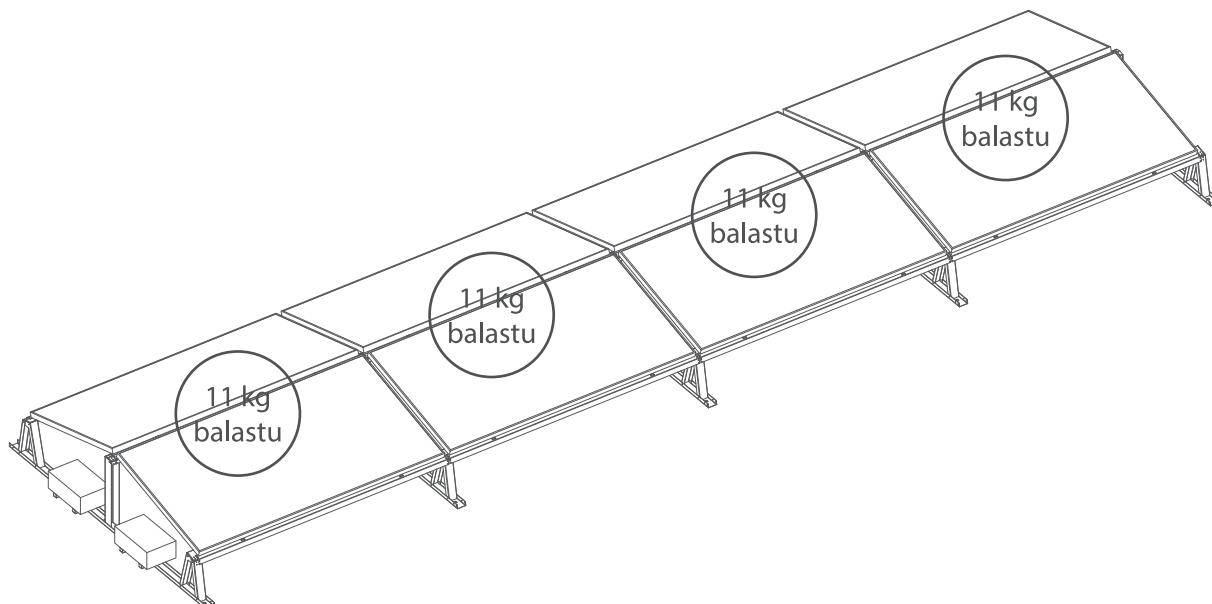

Fig. 6. arrangement ballast To one row of panels photovoltaic
- 5** The entire structure should be loaded with blocks. The blocks should be laid on the basis of a triangle assembly. When birthday occurrence one row photovoltaic modules it has for one panel 11 kg ballast (Fig. 6).